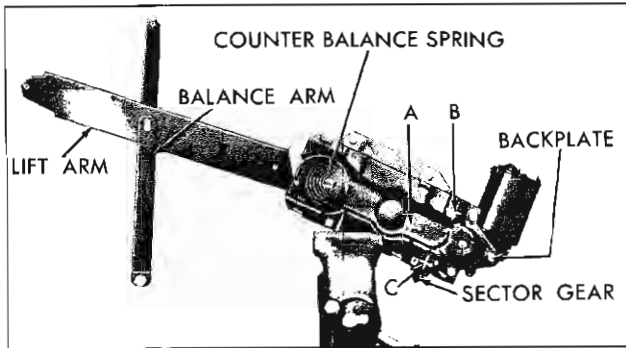

Fig. 33—Door Window Regulator and Motor Assembly
1. Remove front door electric window regulator assembly from door as previously described and clamp it in a vise (fig. 33).
4. Remove motor attaching bolts and remove motor assembly from regulator (fig. 33).